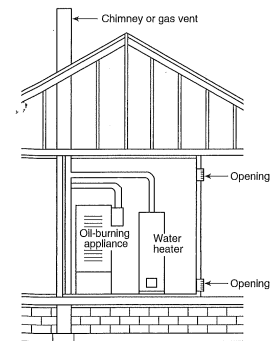

FIGURE 5.4.1.1 Appliances Located in Confined Spaces — All Air Taken from Inside the Building.
- The confined space shall be provided with 2 openings see figure 5.4.1.1, one near top of space and one near bottom